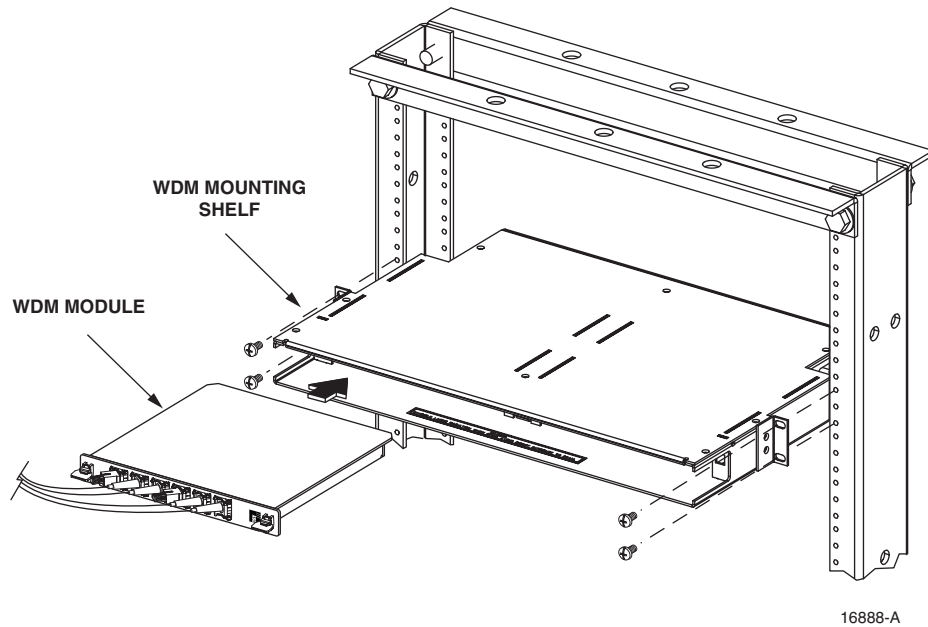

Figure 3-4. WDM Mounting Shelf and WDM Module Installation
5. Position the WDM mounting shelf in the designated mounting space in the rack (per system design plan) and then secure the mounting brackets to the rack using the four #12-24 machine screws provided as shown in Figure 3-4.
6. Install each WDM module in the mounting shelf (see Figure 3-4). A rail on the side of the module fits into a guide within the mounting.